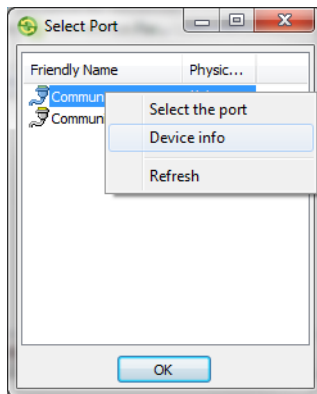

Figure 5: Select Port Dialog Box and Pop-up Menu
5. Click **Ok** on the **Select Port** dialog box (Figure 5).